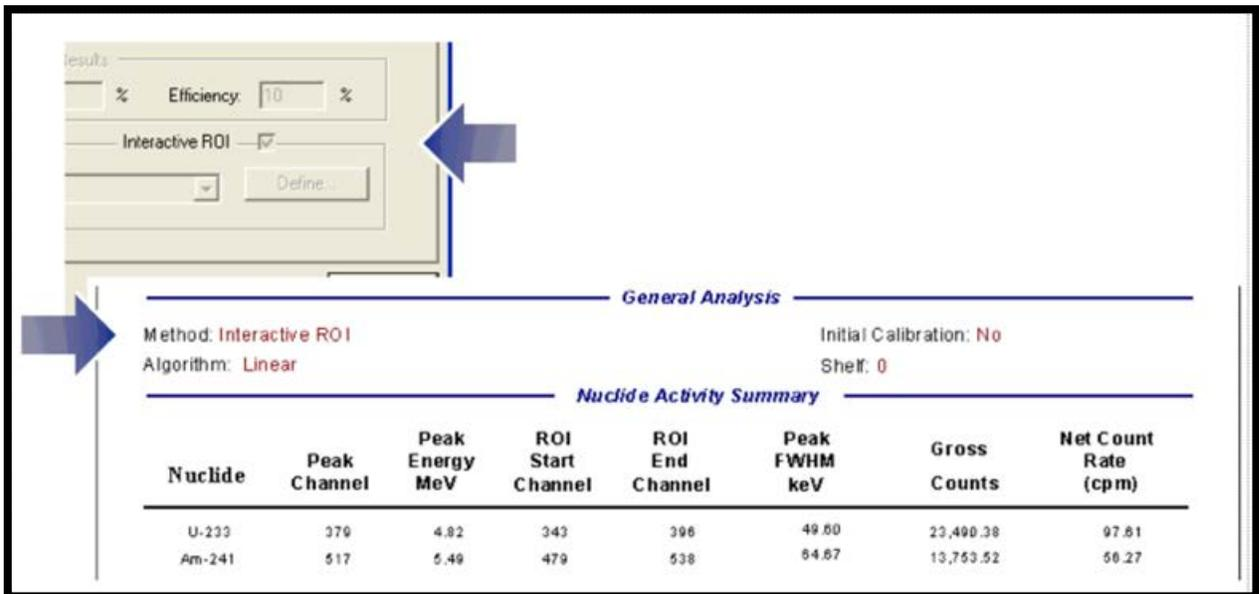

Figure 51. Interactive ROI Method Noted on Recalibration Screen and Report
- The Recalibration properties page and report will indicate that an interactive ROI reanalysis has been performed (Figure 51). In the General Analysis section of the report, the **Analysis Method** field will read **Interactive ROI**. The Nuclide Activity Summary section will show the list of peaks in the customized ROI Set. The **Analysis Method** field will indicate that an interactive ROI analysis has been performed.